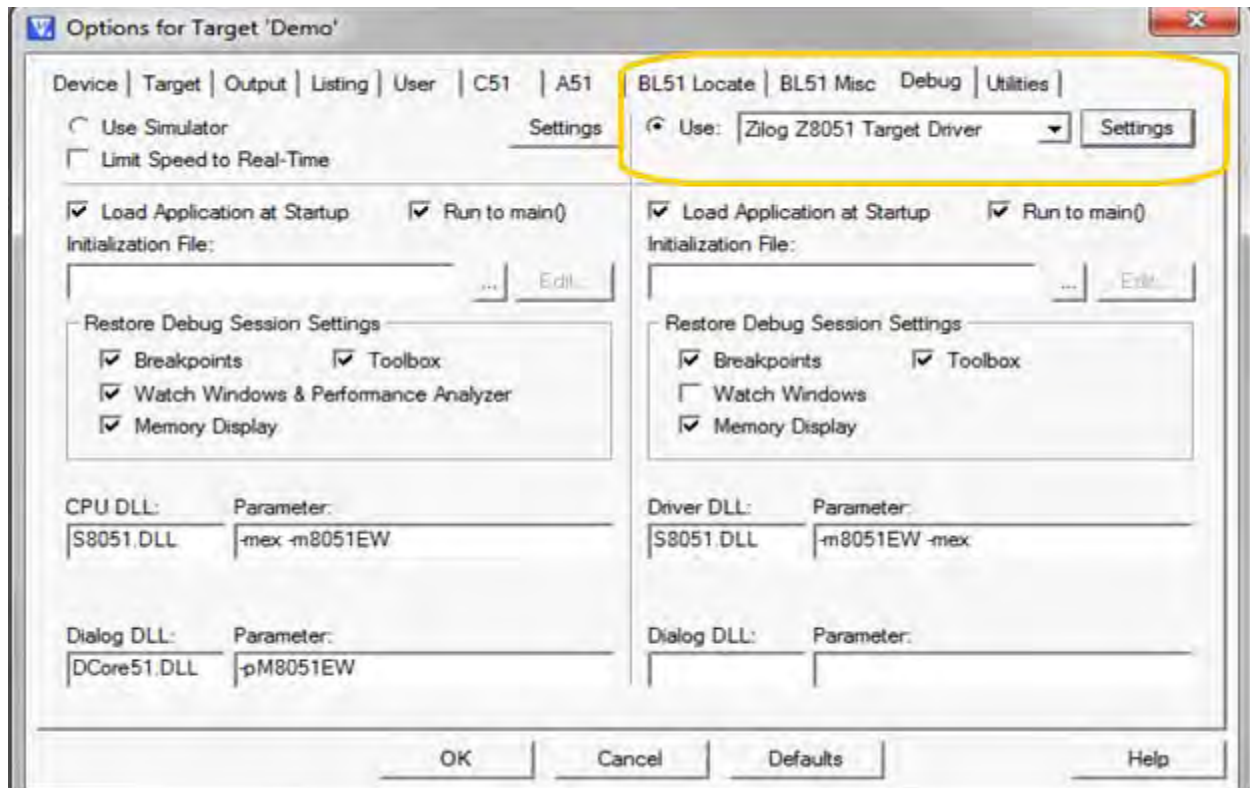

Figure 23. Selecting the Target Driver
6. After selecting the target, click the **Debug** tab and select the **Zilog Z8051 Target Driver** from the **Use:** drop-down menu, as highlighted in Figure 23.